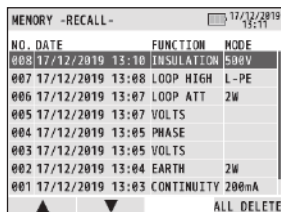

Fig.16-4
- (2) Press ▲(F1) or ▼(F2) switch and select the data you wish to review, and then press ENTER. (Fig. 16-4)